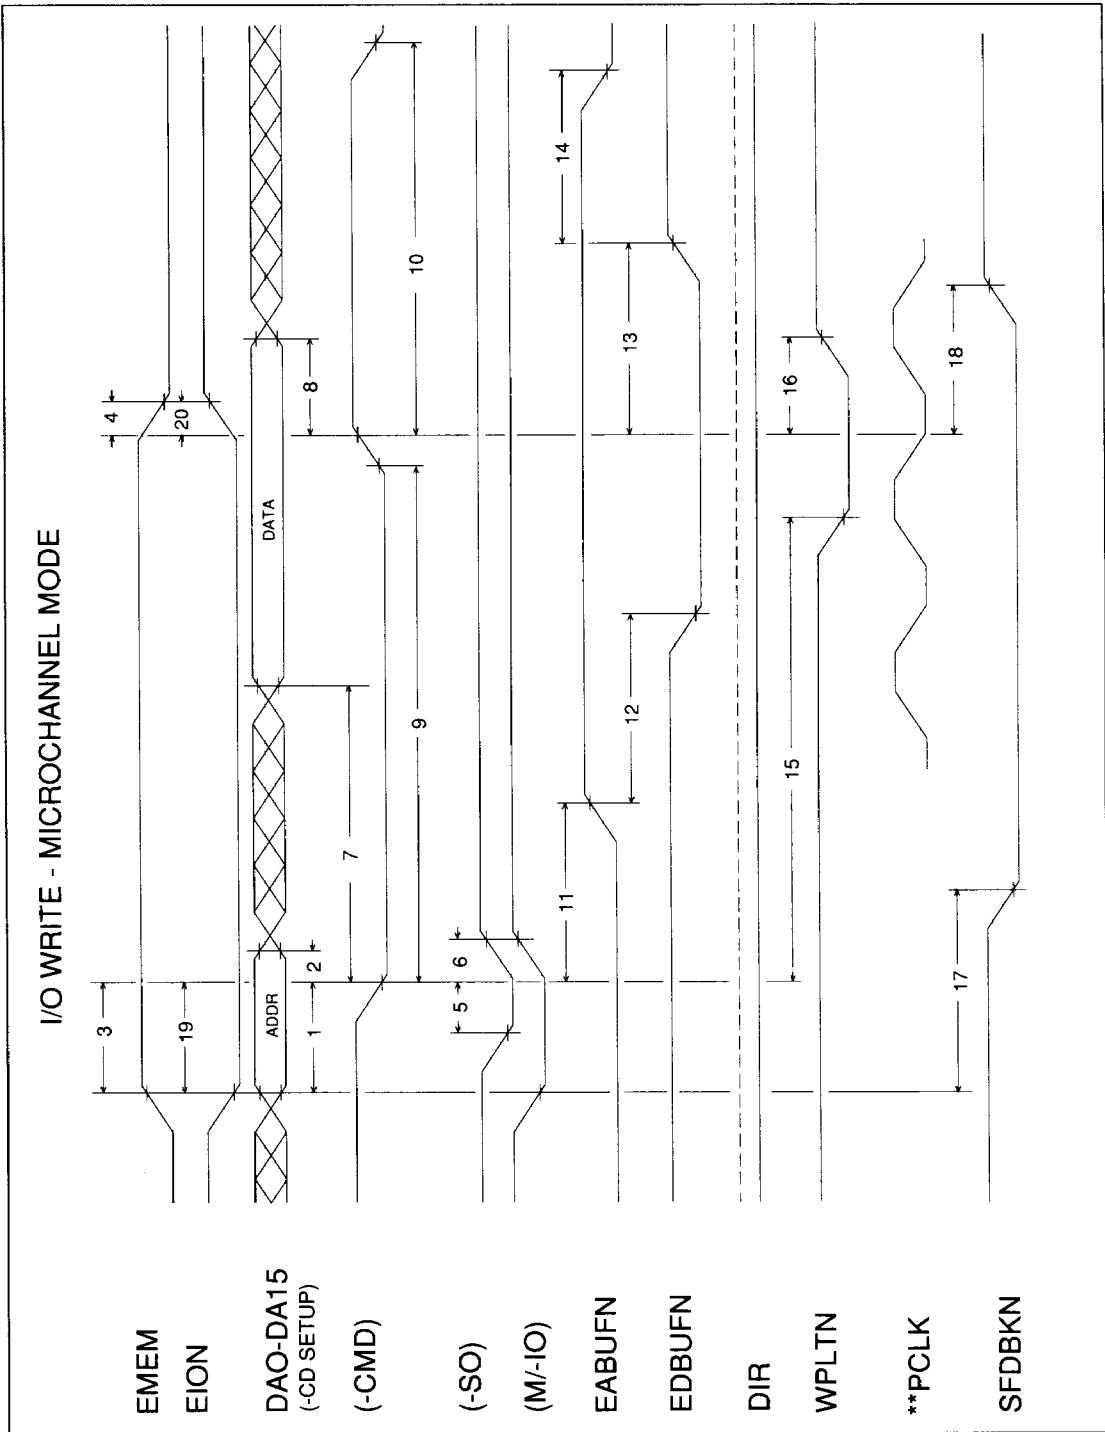

Figure 8. I/O Write - Micro Channel Mode
6.2 I/O READ - MICRO CHANNEL MODE TIMING DIAGRAM(See Figure 8)